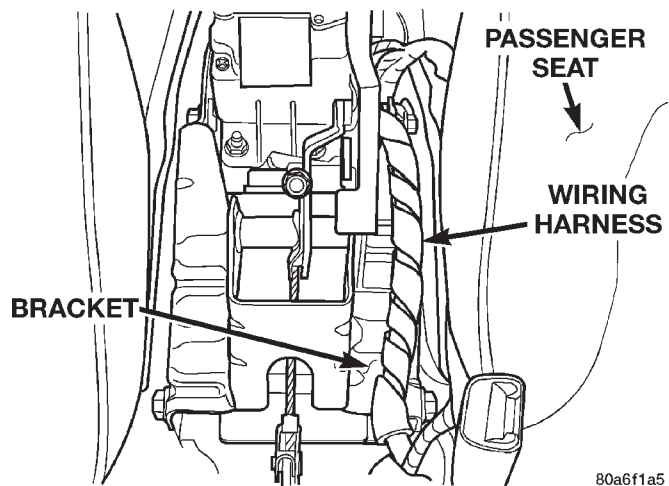

Fig. 129 Wiring Harness
(12) Unclip the wiring harness (Fig. 129) from the park brake mechanism bracket. Wiring harness is attached to bracket using 2 routing clips pushed through holes in the top of the bracket.
(2) Install the wiring harness (Fig. 129) on the park brake mechanism bracket.